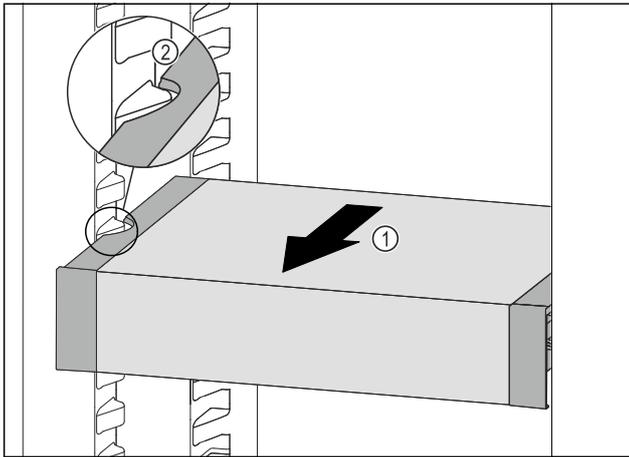

Fig. 109
- ▶ Pull VarioSafe forwards Fig. 109 (1) until the recesses in the side of the VarioSafe are at the level of the support rib in the fridge section. Fig. 109 (2)